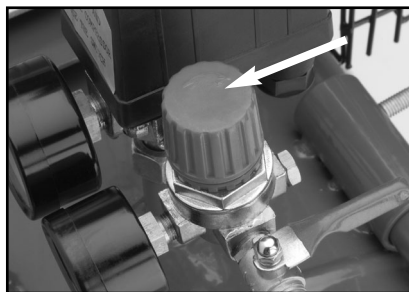

Figure 6. Air control knob.
1. Adjust the air control knob, shown in **Figure 6**, to set the PSI that will be delivered to your tool. Turn the knob clockwise to increase the pressure and counter-clockwise to decrease the pressure.